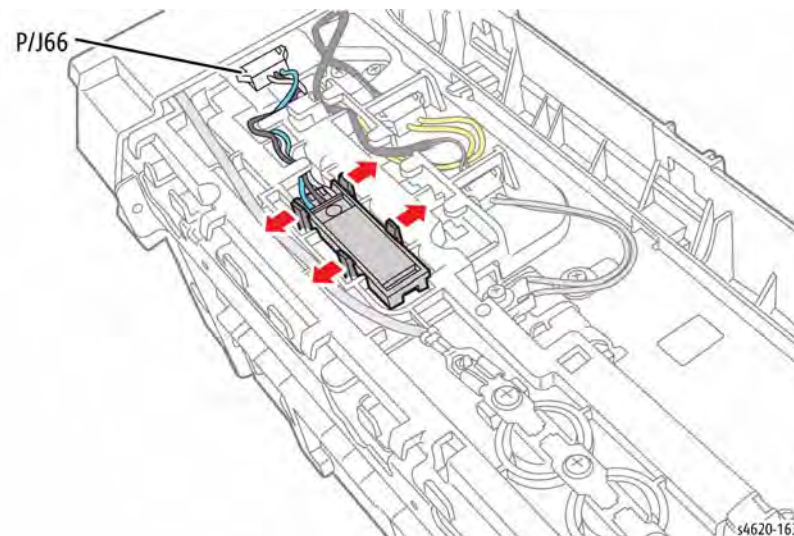

Figure 2 Remove the Thermistor
4. Release 4 hooks and disconnect P/J66 to remove the Thermistor from the Fuser, Figure 2.